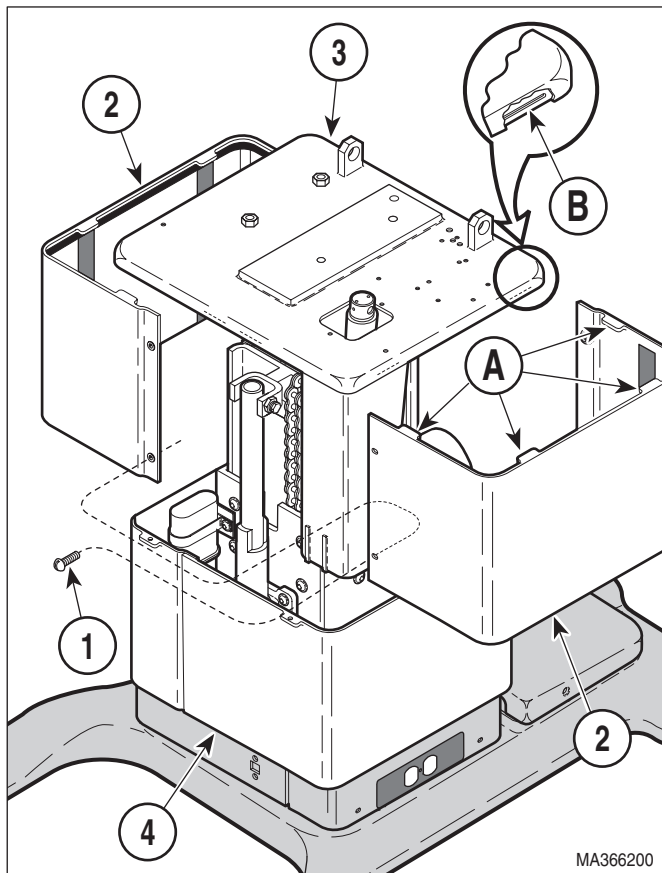
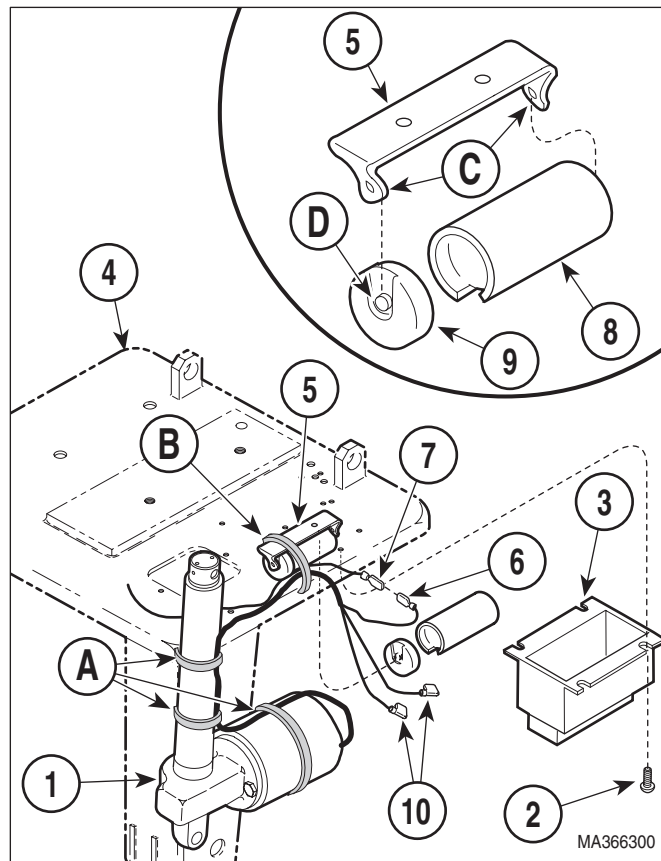
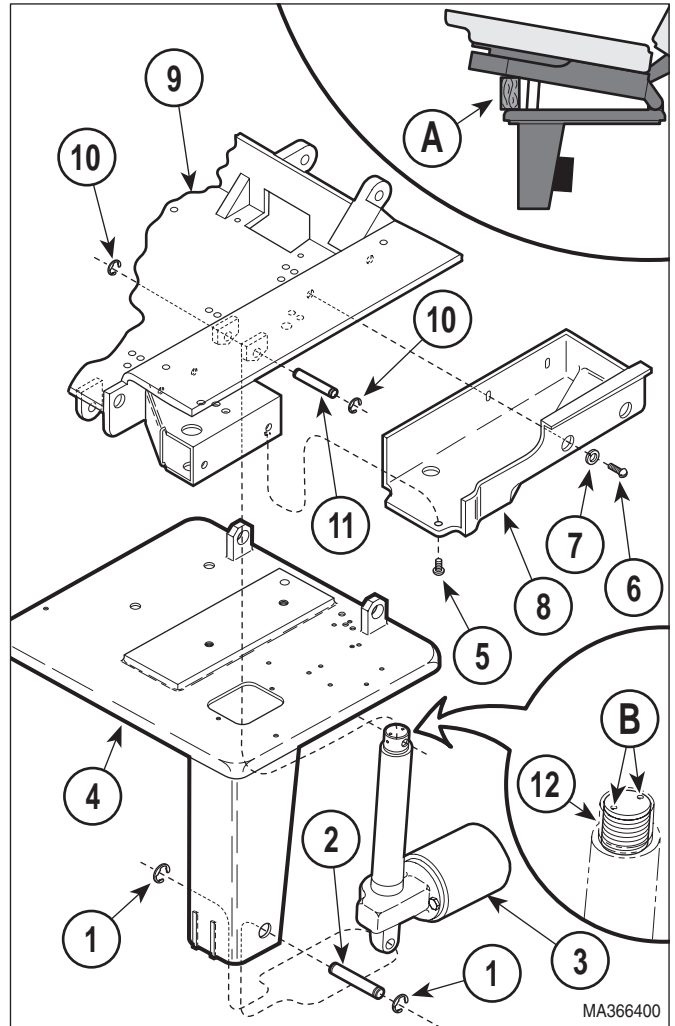

Figure 4-5. Shrouds Removal / Installation
Figure 4-6. Tilt Actuator Wires Disconnection / Connection
Figure 4-7. Tilt Actuator Removal / Installation
- (2) Unplug table power cord from outlet receptacle.
- (3) Remove four screws (1, Figure 4-5) and R.H. and L.H. outer shrouds (2) from column adapter weldment (3).
- (4) Lower middle outer shroud assembly (4) down out of way.
- (5) Cut two cable ties (A, Figure 4-6) securing actuator cable to shaft of tilt actuator assembly (1).
- (6) Remove two screws (2) and connection cover (3) from column adapter weldment (4).
- (7) Cut cable tie (B) securing wire harnesses to capacitor mounting bracket (5).
- (8) Disconnect actuator wire (6) from wire (7).
- (13) Remove two e-rings (1, Figure 4-7) and clevis pin (2) securing base of tilt actuator (3) to column adapter weldment (4).
- (14) Remove screw (5), two screws (6), lockwashers (7), and L.H. stirrup housing (8) from seat weldment (9).
- (1) Install tilt actuator (3, Figure 4-7) on column adapter weldment (4) and secure with clevis pin (2) and two e-rings (1).
- (2) Connect two wires (10, Figure 4-6) to terminals of tilt capacitor (8).
- (3) Install cap (9) on tilt capacitor (8).
- (4) Position bottom of tilt capacitor (8) on capacitor mounting bracket (5) and then push the top of the capacitor inward. Using a screwdriver, force the tab (C) of the capacitor mounting bracket down over the catch (D) of the cap (9). Make sure tilt capacitor is held firmly in place.
- (5) Connect actuator wire (6) to wire (7).
- (6) Secure bundle of wire harnesses to capacitor mounting bracket (5) with a cable tie (B).
- (7) Install connection cover (3) on column adapter weldment (4) and secure with two screws (2).
- (8) Secure actuator cable to tilt actuator (1) with two cable ties (A).
- (9) Using spanner holes (B, Figure 4-7), unscrew adjustable clevis (12) until it is even with top of actuator rod.
- (10) Plug table power cord into outlet receptacle.
- (11) Run TILT UP function to extend rod of tilt actuator (3) 3 to 4 in. (7.6 to 10.2 cm).
- (13) Lower TILT DOWN function all the way down (until tilt actuator can be heard free wheeling).
- (14) Observe. Seat weldment (9) should be parallel with top of column weldment adapter (4). If seat weldment is parallel with top of column weldment adapter, go to step 19. If seat weldment is not parallel with top of column weldment adapter, go to step 15.
- (15) Extend TILT UP function 3 to 4 in. (7.6 to 10.2 cm).
- (16) Remove clevis pin (11) and block seat weldment (9) in this position.
- (17) Using spanner holes (B), screw adjustable clevis (12) in or out as determined necessary in step 14.
- (18) Repeat steps 12 thru 17 until seat weldment (9) is parallel with top of column adapter weldment (4) when tilt actuator (3) is free wheeling at the end of its down stroke.
- (19) Secure clevis pin (11) in place with two e-rings (10).
- (20) Install L.H. stirrup housing (8) on seat weldment (9) and secure with two lockwashers (7), screws (6), and screw (5).
- (21) Install tabs (A, Figure 4-5) of R.H. and L.H. outer shrouds (2) in slots (B) of column adapter weldment (3) and secure with four screws (1), making sure middle outer shroud assembly (4) is captured by R.H. and L.H. outer shrouds (2).
- (22) Plug table power cord into outlet receptacle.